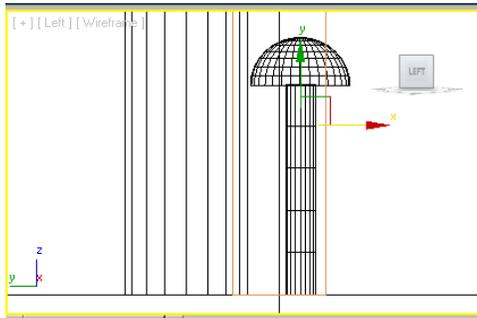

Figure 2-67 Alignment of the cap and the body
11. Next, align the *cap* and the *body* of the rivet in the Left viewport using the **Select and Move** tool, as shown in Figure 2-67.